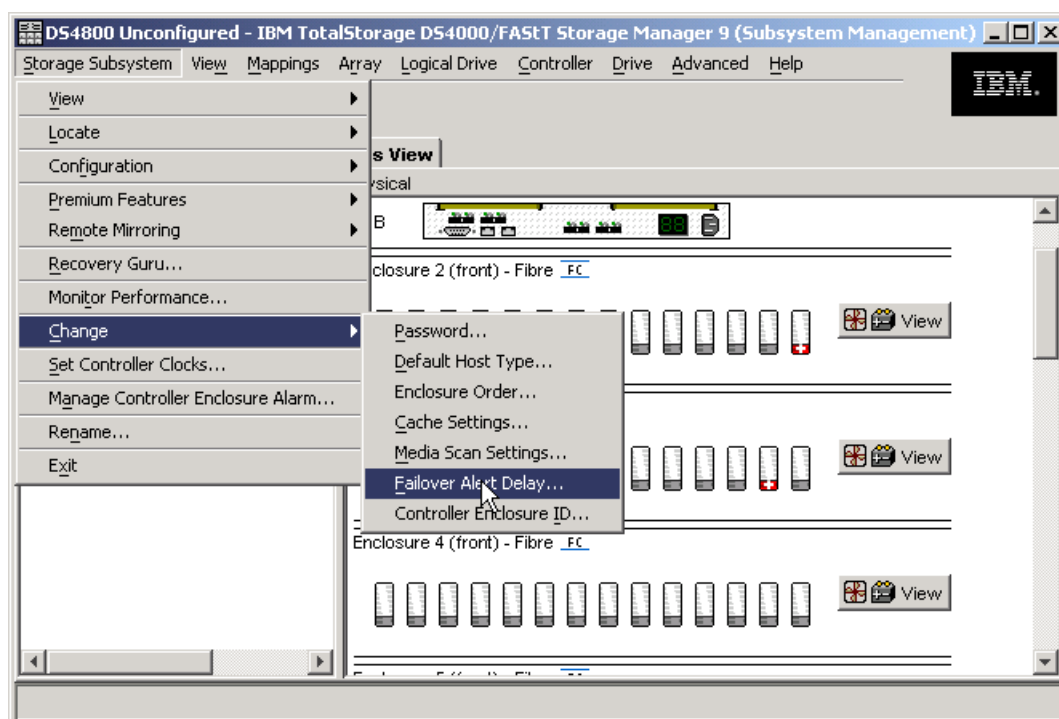

Figure 3-41 Changing the failover alert delay
1. Select the storage subsystem from the Subsystem Management window, and then select either the **Storage Subsystem** → **Change** → **Failover Alert Delay** menu option, or right-click and select **Change** → **Failover Alert Delay**. See Figure 3-41.